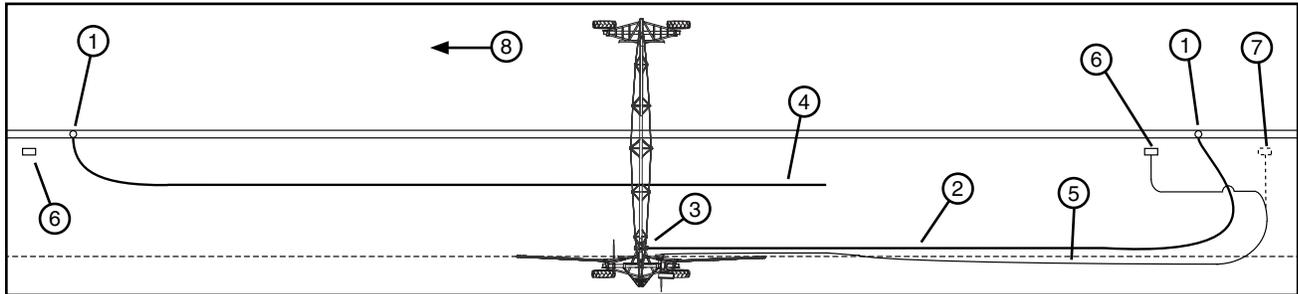

Figure 57-1 1. Shut Off Valve 3. Tee Inlet 5. Electric Cord 7. Alternate Power Pedestal and Electric Cord Position
21. As the machine approaches the end of field/hose stop post, Stop the machine and close the water shut off valve for the first hose. See Figure 57-1.